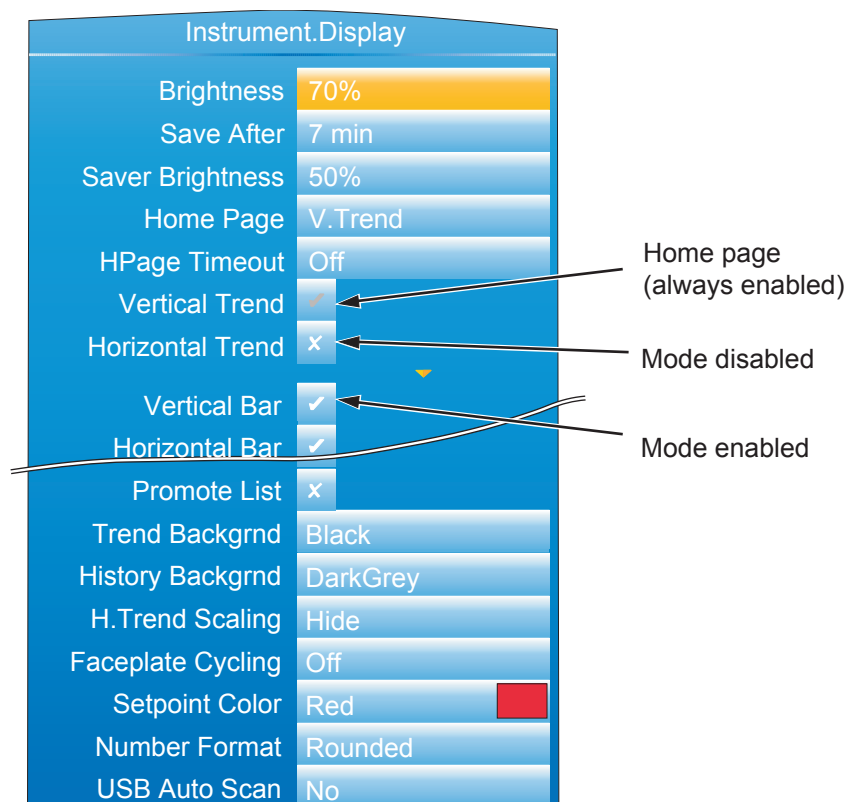

Figure 41 Display menu (expanded to show all fields)
- Home page                    Allows any display mode to be chosen as the 'Home' page. This is the page that the instrument displays at power up, and also the page displayed when the 'Home' key is selected from the top level menu (Section 5.3). The selected display mode (vertical trend in Figure 41) is always enabled in the following display mode enable fields (its 'tick' is grayed out and cannot be edited). See Section 5.4 for a description of the available modes.